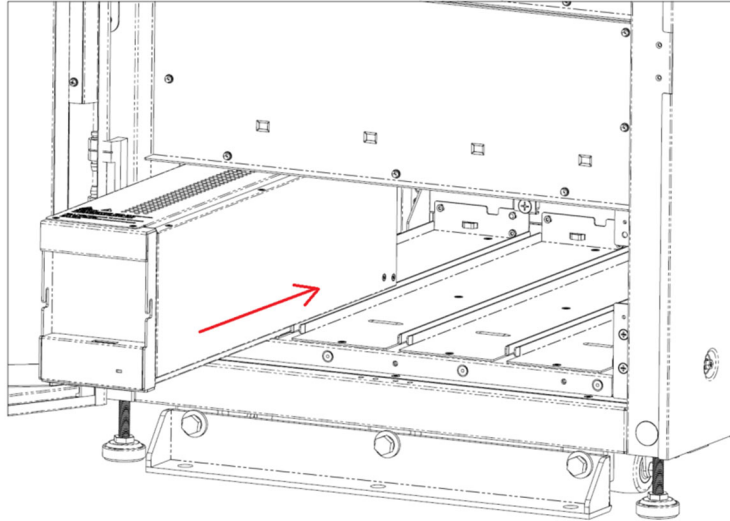

Figure 15: insert the battery module
- (4) Insert the battery module into the battery module slot until it snaps into place. Please refer to **Figure 15**.